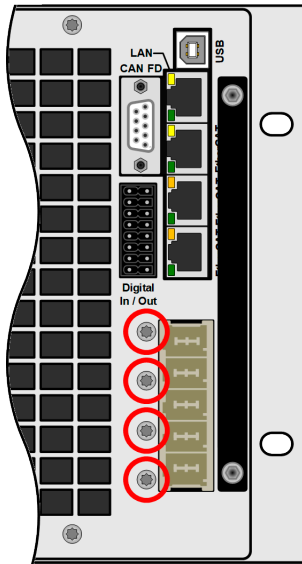

Figure 11 - Screws to be temporarily removed
1. Loosen the four screws next to the AC socket as marked in *Figure 11*.